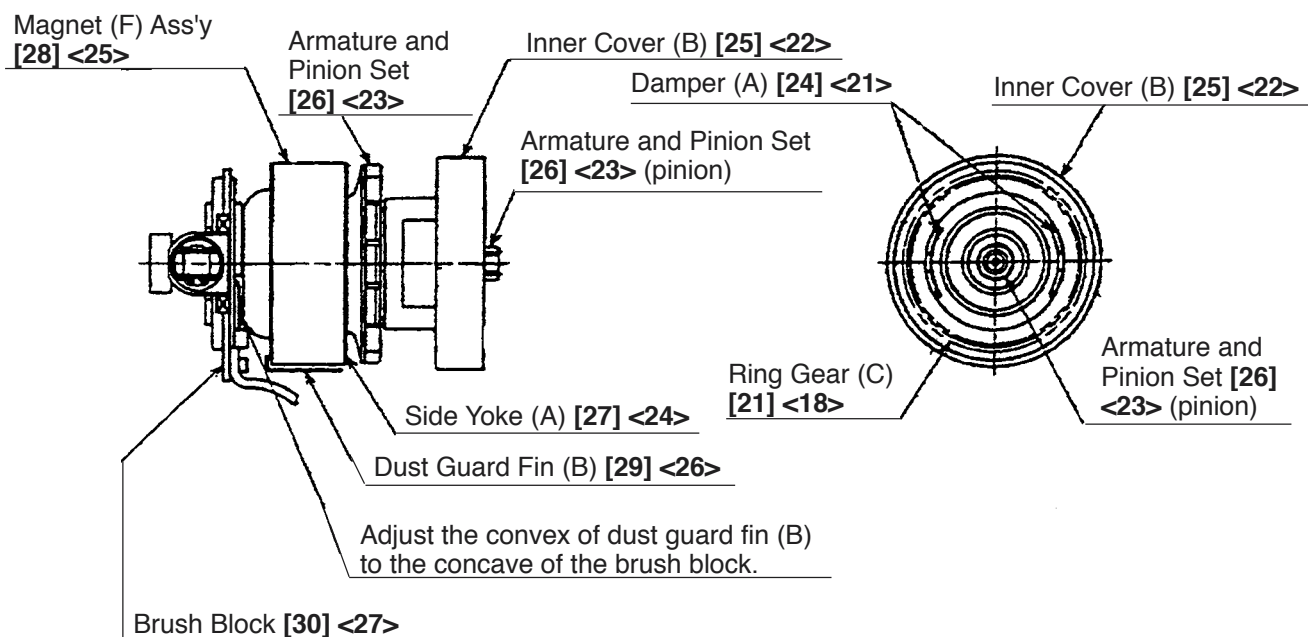

Fig. 10
(10) Removal of Magnet (F) Ass'y [28] <25>, Dust Guard Fin (B) [29] <26> and Side Yoke (A) [27] <24>
Remove Magnet (F) Ass'y [28] <25> in the "B" direction (see Fig. 10) holding Inner Cover (B) [25] <22> securely because Magnet (F) Ass'y [28] <25> has a strong magnetism. Dust Guard Fin (B) [29] <26> and Side Yoke (A) [27] <24> can be easily removed from Magnet (F) Ass'y [28] <25> by holding Magnet (F) Ass'y [28] <25> securely and pulling them in the direction of diameter because they are mounted to Magnet (F) Ass'y [28] <25> magnetically.